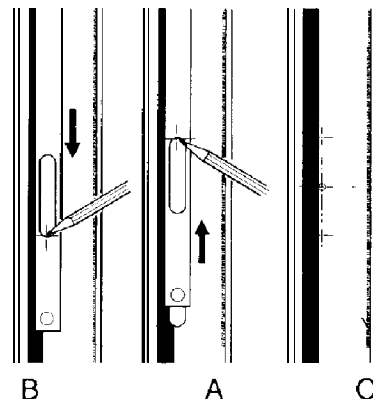

Fig. 7a. b. & c
10.10. FITTING MID GUIDES (Fig. 7a & b)
10.10.1 Throw lock into the locked position. Mark the vent in line with the outer end of the slot(s) - Fig. 7a.